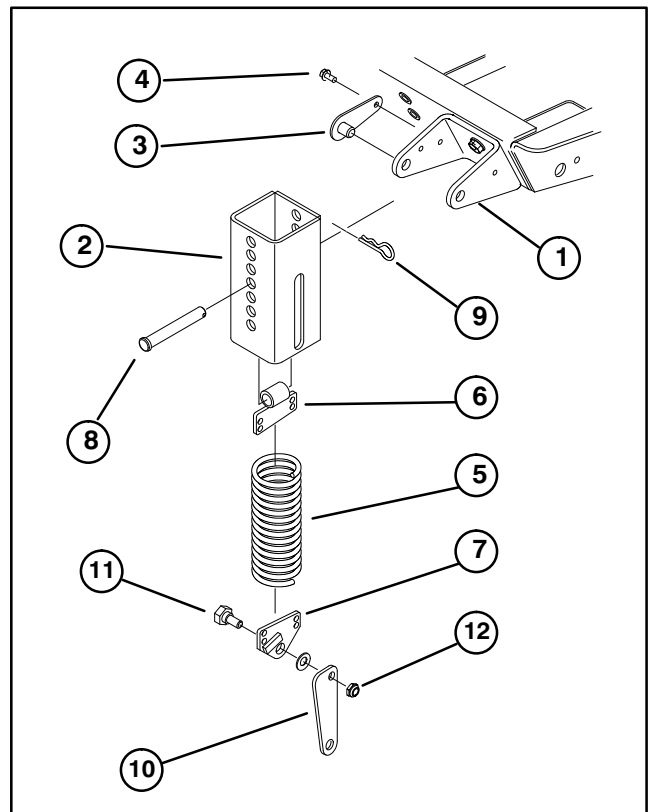

Figure 12
4. Thread the top extension spring coil into the top spring end holes and the bottom extension spring coil into the bottom spring end holes (Fig. 12).
5. Mount knee link to lower spring end with wide part of knee link pointing forward and spring end stop pointing forward. Secure knee link to outer side of spring end with a shoulder bolt and locknut (Fig. 12, 13).
7. Align slotted holes in the spring cover (slot toward the bottom) with the mounting bracket holes. Insert lock pin assemblies into the bracket holes and secure each to the bracket with self-tapping screws (Fig. 12). Torque the screws to 20 ft-lb.
8. From the bottom, insert the spring and top spring end into the spring cover. Select a hole that matches the cutter deck height-of-cut setting; i.e., top cover hole matches the highest height setting, bottom cover hole the lowest, etc. Align the top spring end hole with the selected spring cover holes and insert the clevis pin to secure the spring inside the cover (Fig. 12). Secure clevis pin with a hair pin cotter.